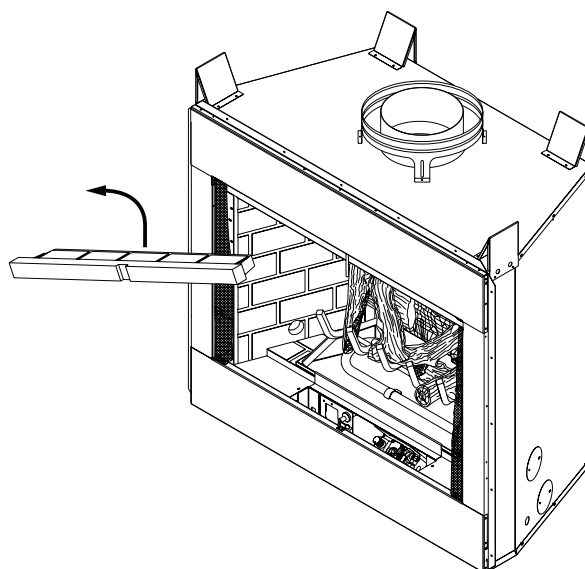

Figure 13 - Removing Front Refractory Access Panel
1. Remove front refractory access panel by lifting up and angling out of firebox opening (see **Figure 13**).
1. Remove front refractory access panel by lifting up and angling out of firebox opening (see **Figure 13**) to expose controls.